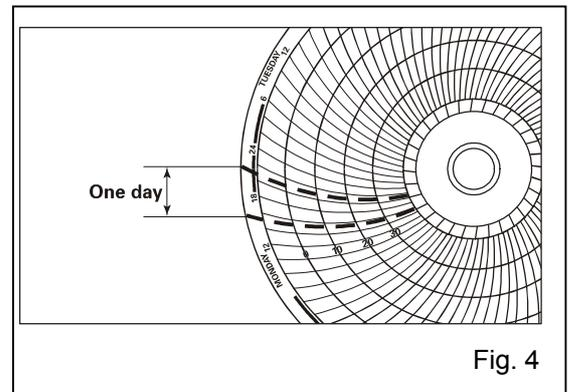

Fig. 4
4. Remove 2 screws fixing the battery mounting plate. (Fig. 3) Disconnect the battery connector (Fig.4)
5. Take out the battery.(Fig.4)
3. Set a ink pen in the pen holder properly keeping the pen holder with the left hand. (Fig. 4)
The center of the recording paper is divided into 32 equal sections. The lines extending from these lines serve as the 32-day time scale. (Fig.4)